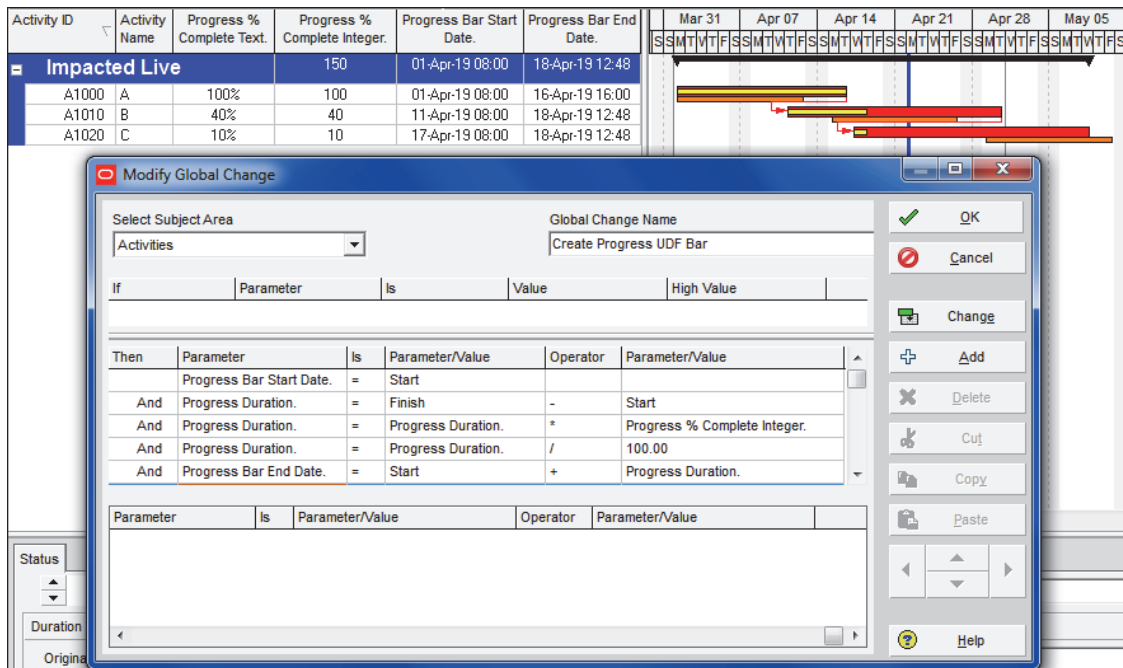

Figure 33 – P6 Impacted Live with % complete bar.
- Figure 33 below shows how the UDF Integer field **Progress % Complete Integer** displays an irrelevant summary **% Complete** of 150 which is greater than the maximum possible value of 100%. The UDF Integer field **Progress % Complete Text** displays a blank, which is preferable to a value over 100%.